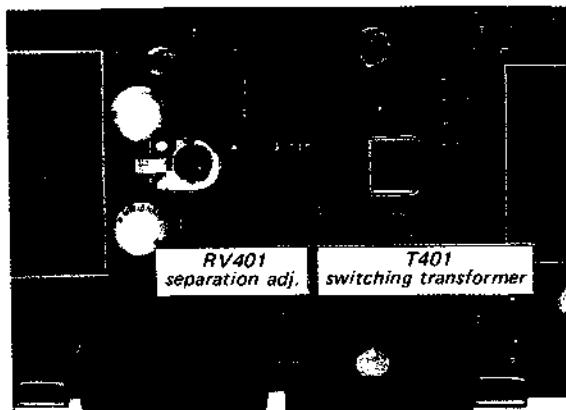

Fig. 3-9. Parts location
2. Precisely tune the set to the S.S.G.'s carrier frequency then turn the top core of switching transformer T401 (see Fig. 3-9) to obtain maximum output at the left channel. Note that this adjustment is closely related to stereo distortion.
5. The output-level to residual-level ratio represents the separation. Adjust separation adj. control RV401 (see Fig. 3-9) for minimum residual level. Check the right channel for separation. Usually, about an 8 to 9 dB